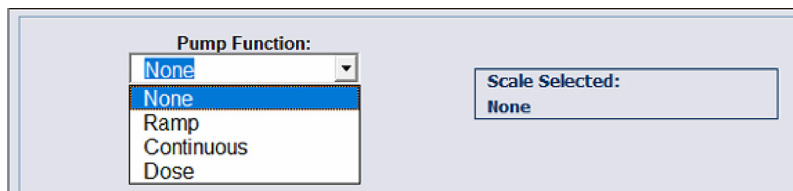

Figure 5.17. Dropdown menu for pump functions.
- From the **Pump Function** dropdown menu, choose the desired function: **Ramp**, **Continuous**, or **Dose** (Figure 5.17). Each function is described in the following sections.